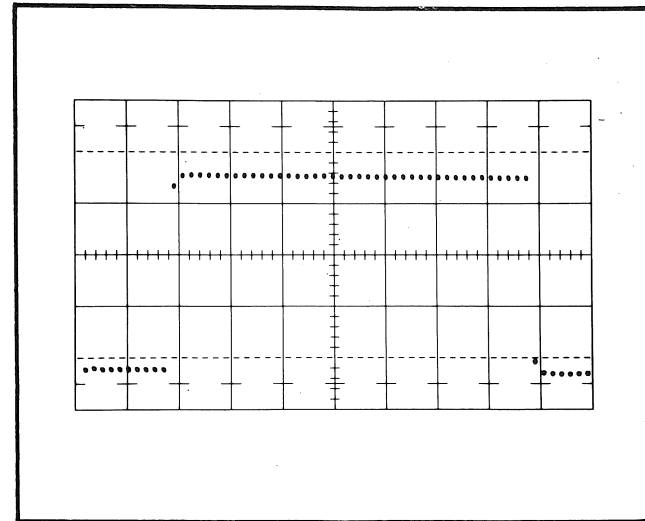

Fig. 2-2. Waveform obtained when probe is properly compensated.
d. Adjust the probe compensation (disregarding the first dot) until the displayed waveform is similar to that shown in Fig. 2-2.